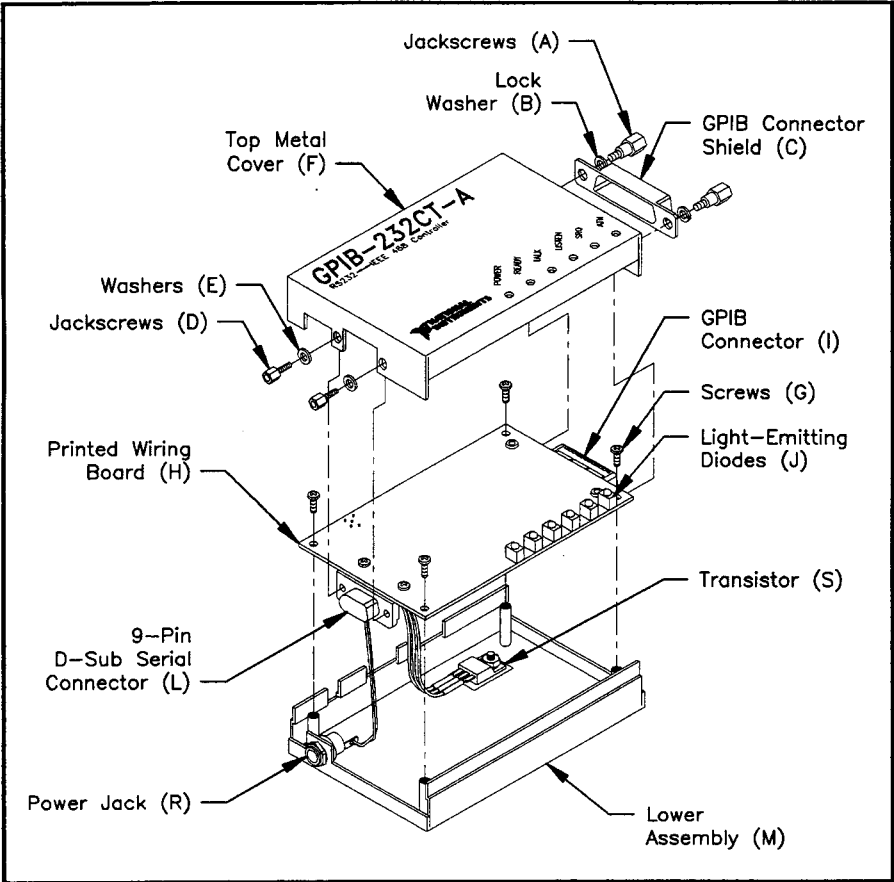

Figure 2. GPIB-232CT-A Assembly (DC Version)
This section describes the disassembly of the DC version of the GPIB-232CT-A. Refer to Figure 2 and complete the following steps to disassemble the GPIB-232CT-A.
2. Using a 1/4 in. nutdriver or pliers, remove the jackscrews (A), the lock washers (B), and the GPIB connector shield (C) from the GPIB connector (I).
3. Using a 3/16 in. nutdriver or pliers, remove the jackscrews (D) and the washers (E) from the 9-Pin D-Sub serial connector (L).
4. Lift the metal cover (F) from the lower assembly (M) of the GPIB-232CT-A.
5. Remove the four screws (G) that hold down the printed wiring board (H) at each corner with the screwdriver.
Warning: *Straining the power wires that connect the printed wiring board (H) to the DC power jack (R) and the transistor (S) can damage your GPIB-232CT-A. Do not strain these wires when changing the EPROM (O). Be sure to support the printed wiring board to reduce strain on the power wires (Refer to Figure 2).*
6. Lift the printed wiring board (H) from the lower assembly (M).
Figure 2 shows the location of the parts you need to disassemble the DC version of the GPIB-232CT-A.